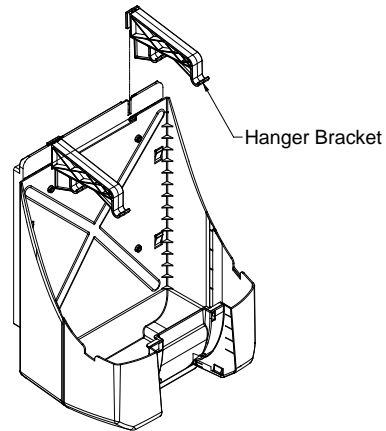

Figure 4
Step 3. Hanger Brackets (Ref Figure 4)